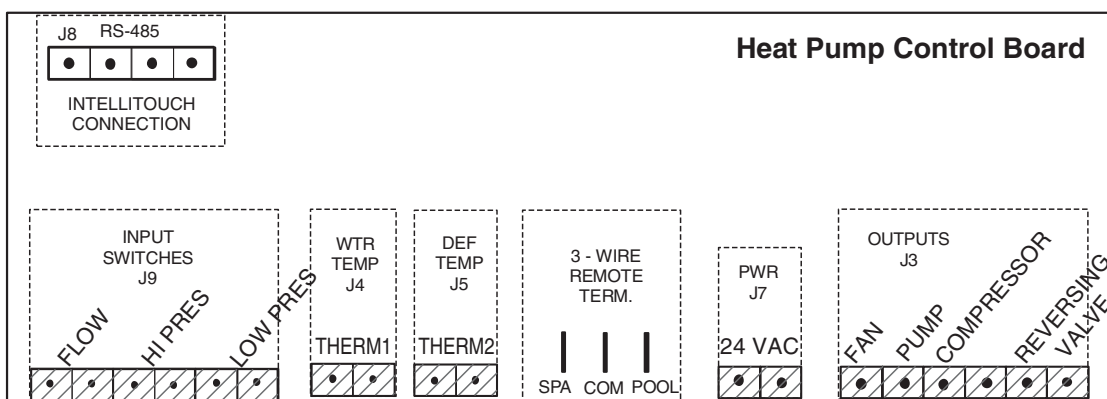

Figure 11.
9. Connect the cable from the IntelliTouch® or EasyTouch® Load Center to the heat pump remote control terminals using 1/4 in. “Spade” connectors, see Figure 11 on the previous page. Follow instructions for wiring on page 12.